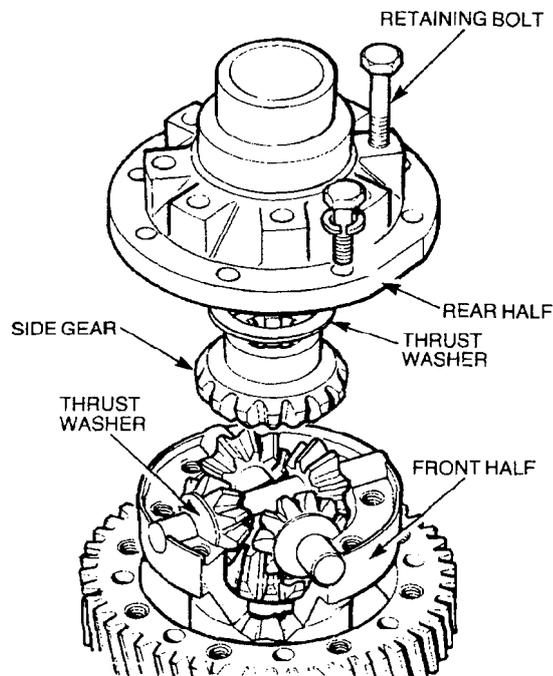

Figure 192 Differential Reassembly
- (1) It is important that the differential components are lubricated with clean oil during assembly. All components must be lubricated with clean oil during assembly.
- (2) Both the differential case halves and the pinion shafts are supplied as matched pairs only.
- (3) The bevel pinions and side gears are supplied as a matched set of six and should not be interchanged. Replace them as a set only.
- (4) The side gears must be adjusted to allow an end-float of 0.025 mm (0.010 in) and a pre-load of 0.025 mm (0.010 in).
- (5) The range of shims available is from 1.05 to 1.45 mm (0.041 to 0.057 in) in 0.10 mm (0.004 in) increments.
- b. Support the differential front half in the vertical position (Figure 192).
- c. Install a side gear and thrust washer into the front half of the differential. Fit the bevel pinions, thrust washers and pinion shafts on to the front half and side gear. Insert the remaining side gear and thrust washer into the rear half and fit the two halves together (Figure 192).